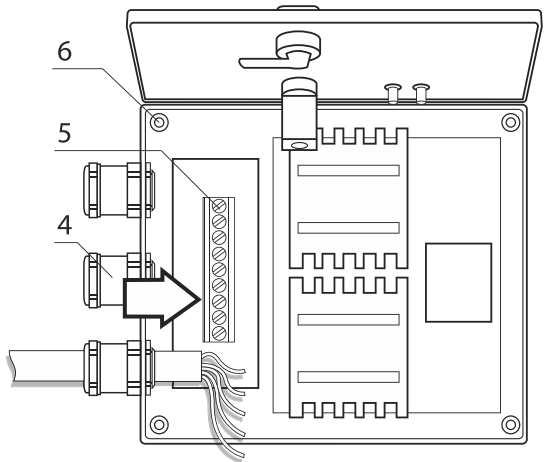
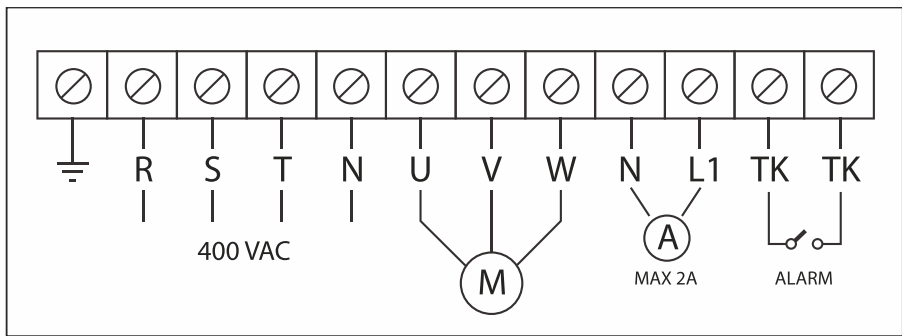

Fig. 3
Fig. 4 Connection Diagram
The controller has five speeds selectable by means of rotating knob 1 to one of the five fixed positions or "O" (Off). The controller is equipped with TK terminals (see Fig. 4) for connection of the thermal contact built into the fan motor. When actuated the thermal contact cuts voltage supply to the fan motor and switches on signal lamp 3 which indicates controller operation in the emergency mode. The controller also has terminals L1,N (230VAC/Max. 2A) for connection of external equipment (e.g. air damper actuators). Setting the controller knob to "O" cuts the voltage supply to the fan motor.
- Complete the electrical connections according to the wiring diagram (see Fig. 4). The external wires are connected to the device by means of bolt-and-nut terminals 5 (see Fig 3). The cables are routed into the unit through sealed lead-ins 4 (see Fig.3). The external lead-in (400V/50Hz) must be equipped with an automatic switch built into the stationary wiring. Supply the power voltage and start the device.